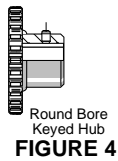
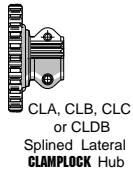

FIGURE 4
FIGURE 5
STEP 3. FIG 4, Round Bore Keyed Type are secured in position with two M8 grub screws. Loctite 242, 243 or similar should be used in the threads which should be tightened to 11 Ft Lbs torque. 63 series DIN taper types are secured with an end nut supplied with the pump. FIG 5, Spined Lateral Clamplock are secured with 2 high tensile cap screws with pre-coated Loctite thread film. Refer to TABLE 3 for bolt tightening torque.